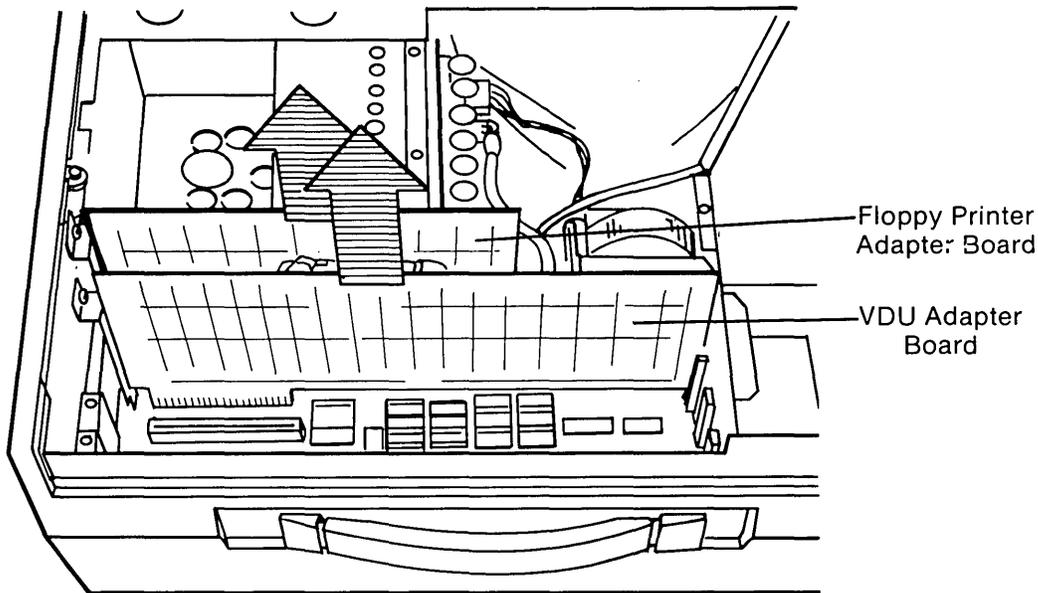

Figure 7-24. Removing the Floppy/Printer Adapter Board and the VDU Adapter Board.
- 8 Gently remove the Floppy/Printer Adapter Board and the VDU Adapter Board by pulling them away from the processor board (see Figure 7-24).